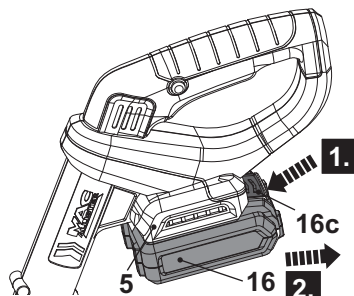

Fig. 3
2. Press the release button (16c) and remove the battery pack (16) from the battery docking port (5) (Fig. 3).